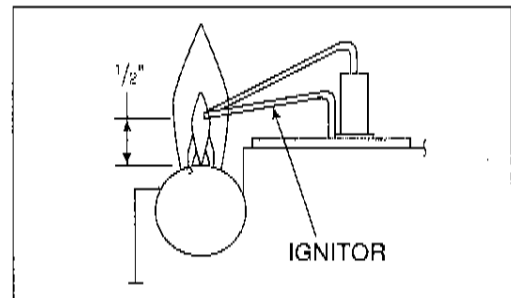

Figure 9A
2. Periodically visually check the flame of the burner, making sure the flames are steady; not lifting or floating. The flame color should be blue with yellow tips. The ignitor (electronic) or thermopile (standing pilot) tips should be covered with flame. See Figures 9A or B and 10.